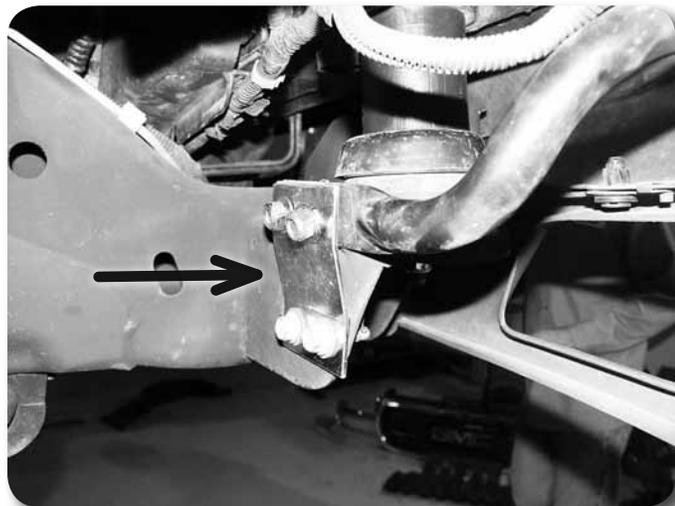

Figure 25
49. Mount the provided outside support relocation brackets to the factory front bumper support brackets with 7/16" x 1-1/4" bolts, nuts, and 3/8" USS washers. Do not tighten at this time Figure 25.
50. Loosely mount the relocation brackets to the original bracket location on the frame using the stock hardware Figure 25.